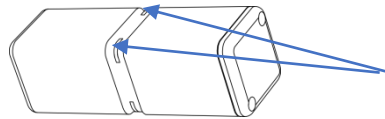

Figure 8A
- WWD has special recess “Figure 8A” which helps induce Water run through it, to create effective detection by probes from both end